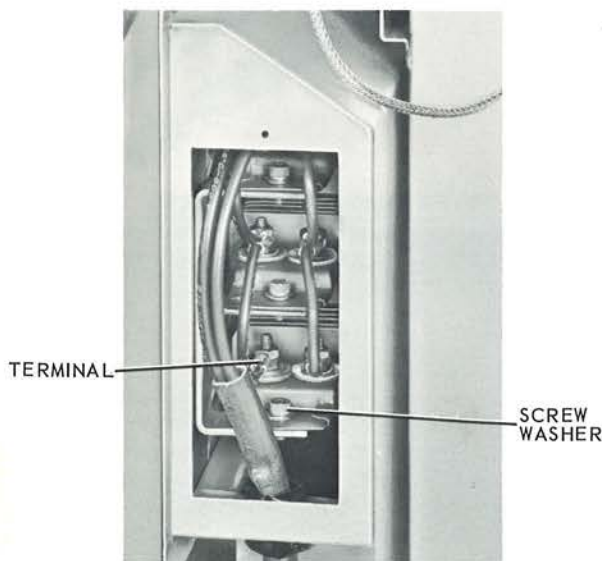

FIGURE 54 AIR HEATER CONNECTIONS
- e. Disconnect the necessary TERMINALS, figure 54, to electrically isolate the heaters from each other.